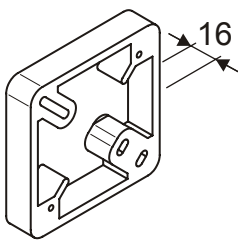
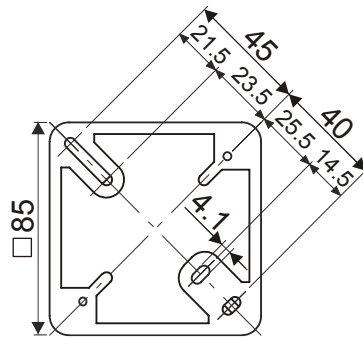

Fig. 7
Fig. 8
1. Mount the additional frame AI330 on a wall or recess-mounted socket using two screws,  $\varnothing$  max. 4 mm (Fig. 7, Fig. 8).